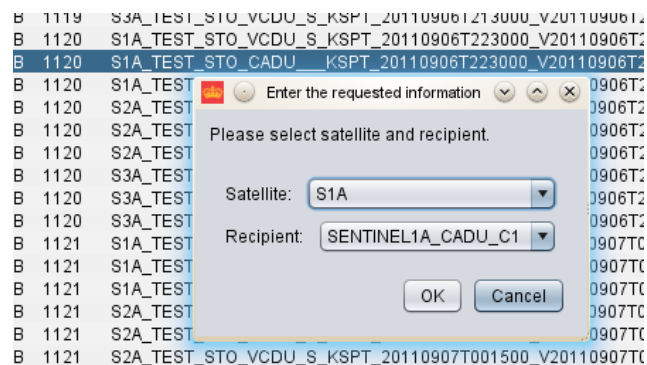

Figure 82: Redistribution
- ❑ Select the file to be transferred, and click the right mouse-button. The select redistribute and appropriate targets (see figure 82).